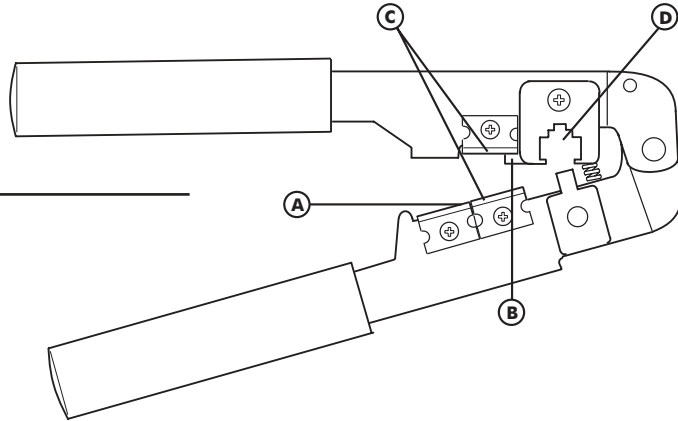

FIGURE 28:
5. The stripped insulation should expose approximately 3/16" of wire (Figure 28).